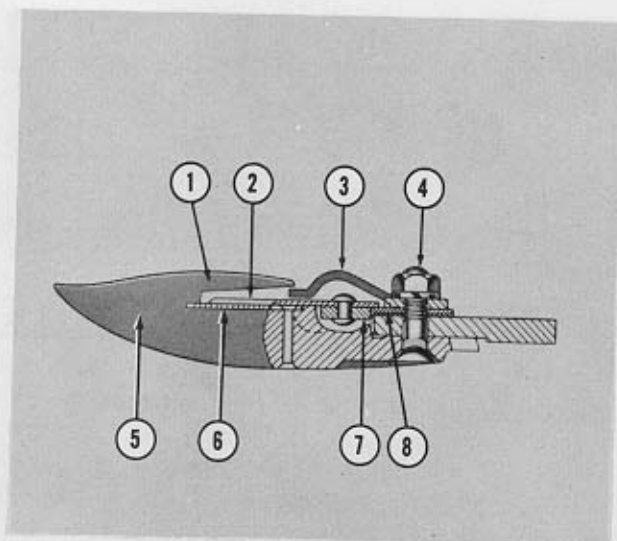

Figure 23
Align the guards (5), Figure 23, by striking the forward end up or down with a hammer until the ledger plates (6) are flush with the knife sections (2). The knife guard lip (1) should be above the knife clips (3) and kept straight as shown in Figure 23.
The knife clips (3), Figure 23, should hold the knife sections down on the ledger plates (6) without binding the knife sections. Adjust by removing the knife and striking the forward end of the clip up or down.
The wear plates (8), Figure 23, located under each knife clip (3), must fit snugly against the knife back (7) as shown. To adjust the wear plates, loosen the nuts on the two bolts (4), Figure 23. Tap the wear plates forward against the knife back and tighten the nuts securely.